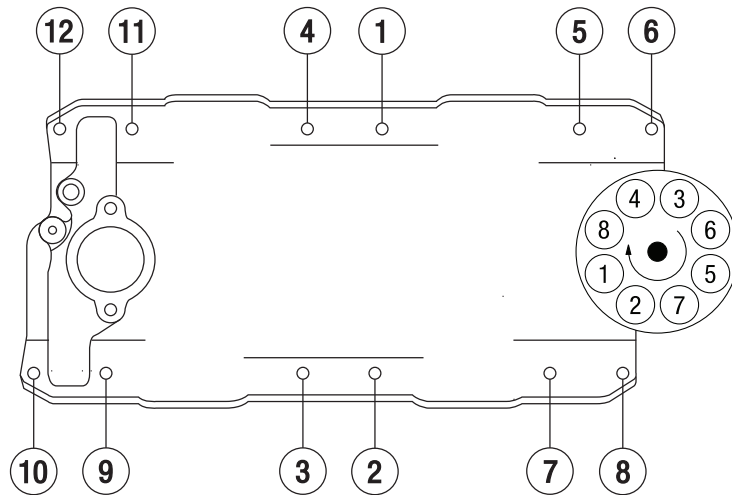

Figure 2 - Small-Block Chevrolet Bolt Torque Sequence
6. Torque all of the remaining manifold bolts in two steps by the sequence shown in **Figure 2** to 25 ft./lbs.